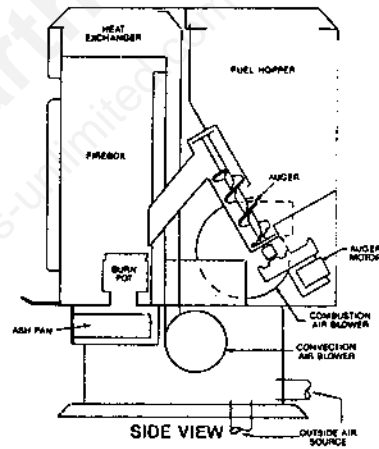

FIGURE 10
4.1 Ash Disposal — (see figure 10)